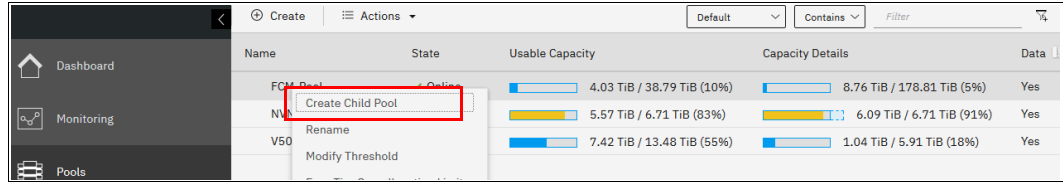

Figure 5-19 Creating a child pool
1. Select **Pools** → **Pools**, right-click the parent pool that you want to create a child pool from, and select **Create Child Pool**, as shown in Figure 5-19.